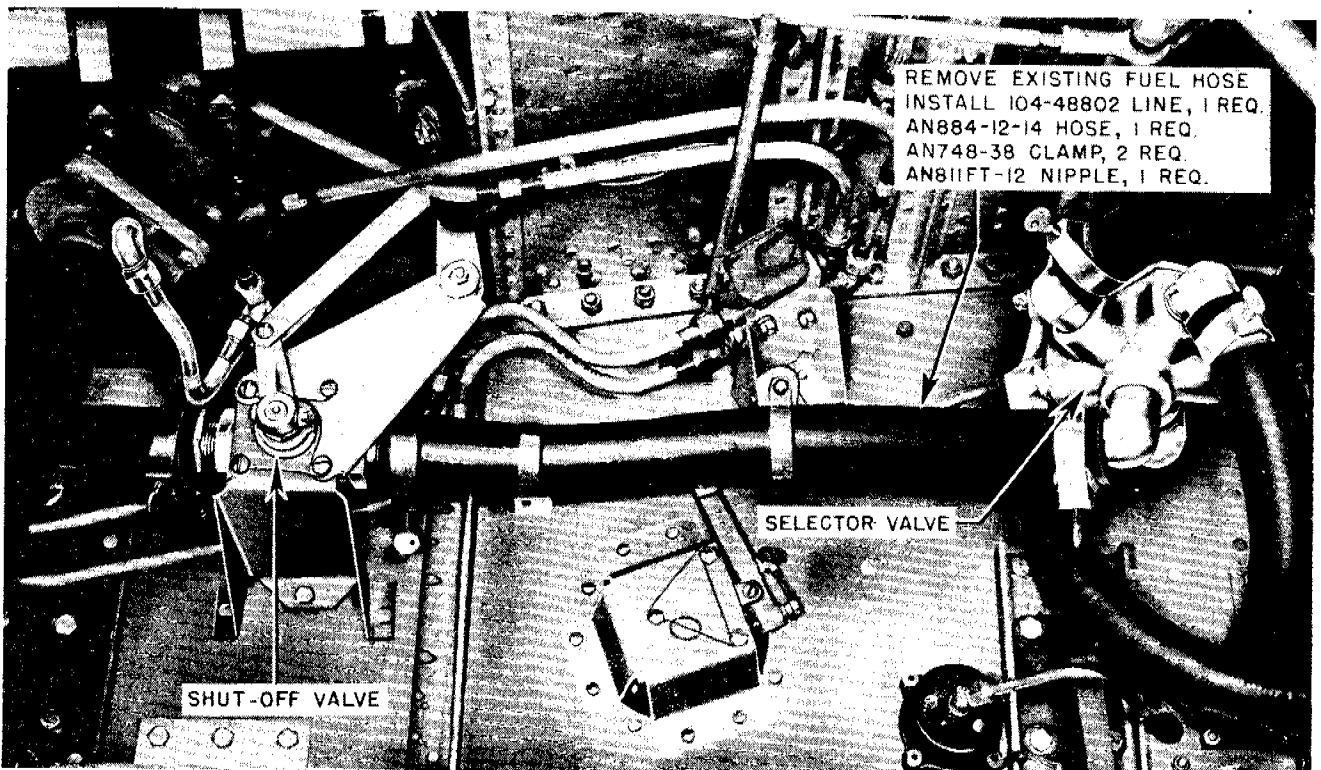

Figure 1 - Left-hand Wheel Well - P-51B and P-51C Airplanes
(1) Locate the fuel hose, part No. 106-488101-22, in LH wheel well connected to the fuel shut-off valve and fuel selector valve. Remove the hose by detaching the clamps on each end and at the timing valve bracket on the center rib midway between the two valves. (See figure 1.)
(2) File or cut the timing valve bracket approximately 3/16 inch to provide clearance for the new metal line.